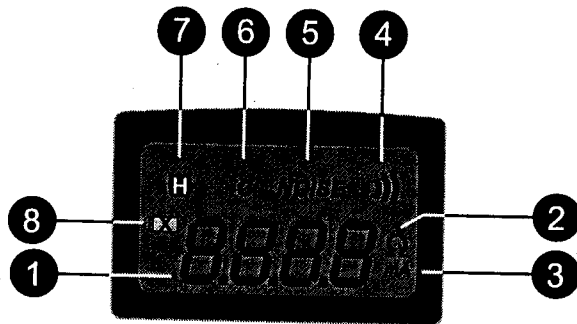

Fig. 2
4. **LCD** - See Figure 2 for details